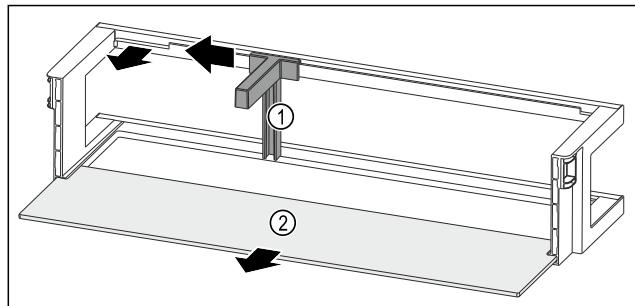

Fig. 84
- Slide the bottle holder Fig. 84 (1) to the side as far as the recess.
- Remove the bottle holder Fig. 84 (1).
- Remove the shelf Fig. 84 (2).